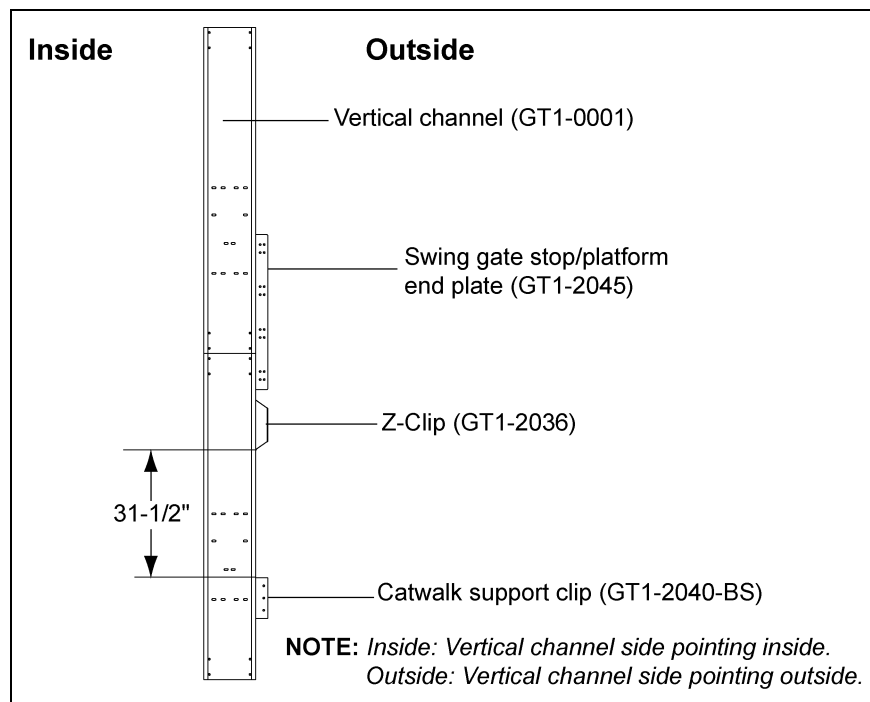

Figure 6H
2. The minimum distance between the Z-clip and support clip is 31-1/2". (See Figure 6H below and Figure 6J on Page 52.)